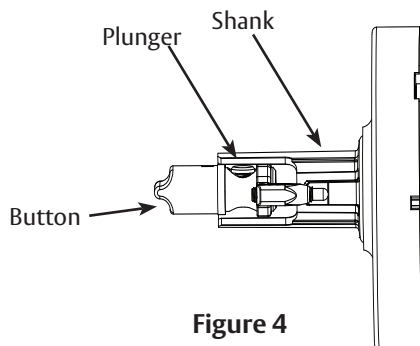

Figure 4
3. Install (2) #10-32 x 1-1/4" through-bolt screws to tighten the lock to the door.
7. For button functions, verify button is in-line with shank when the lock is in the unlocked position as shown in Figure 4. Adjust the button, if necessary, by pressing the plunger and moving it in or out.